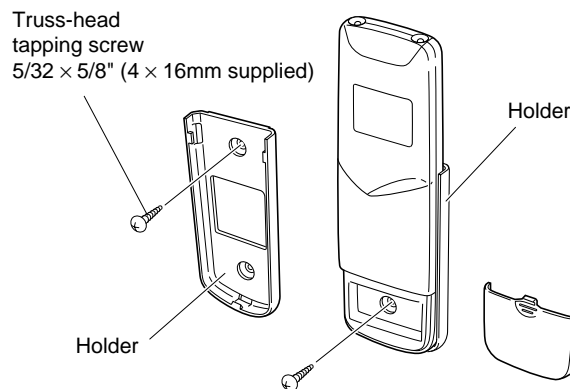

Fig. 39
- 1) Mount the holder to the wall with one of the screws (using only the hole in the top of the holder) (Fig. 39).